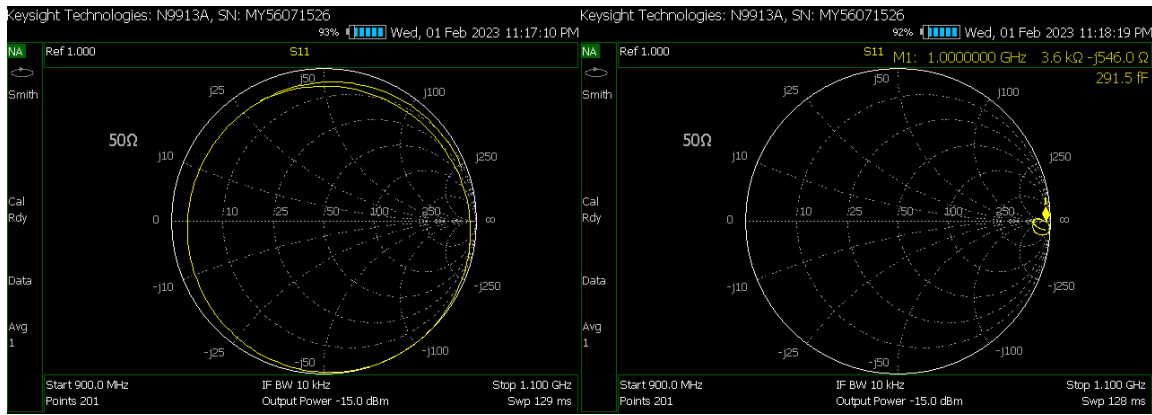

Figure 2 – Smith Chart of the S_{11} measurement between 0.9 and 1.1 GHz on the 24-inch cable before and after port extension.
- Press Measure, Format, and select Smith. The Smith chart should show a trace revolving several times around the screen (see Figure 2).
- Select Port1 Extension again, and rotate the selector knob until the trace reaches the open circuit location on the Smith Chart and the trace collapses to a small circle and the equivalent reactance of the load is minimized (the equivalent reactance is shown as an inductance or capacitance on the top-right of the screen) – see Figure 2. Finally, press the Back button.